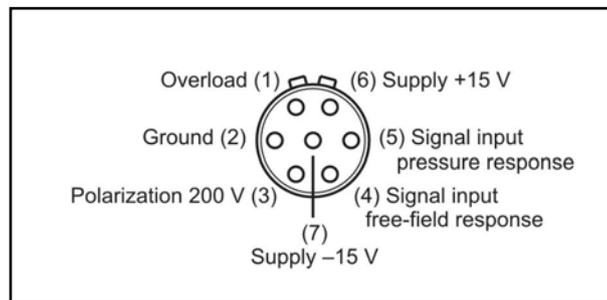

Fig. 2.2 7-pin LEMO EGA 307 1B input socket (external view)
- 7-pin LEMO EGA 307 1B input socket for the LEMO plug on the cable of the Gain and Filter Unit Type 26HT. Wiring diagram shown in Fig. 2.2.